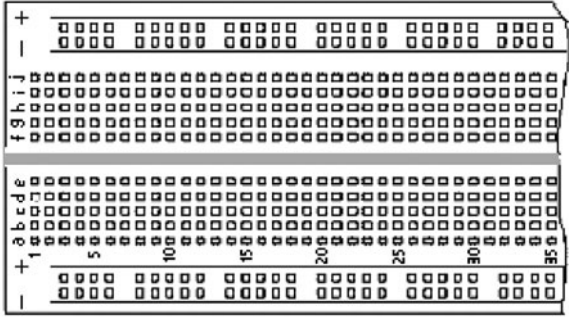

Figure L2-11
1. Set your digital multimeter to CONTINUITY. Now refer to Figure L2-11. Notice the letters across the top and the numbers down the side of the solderless breadboard.